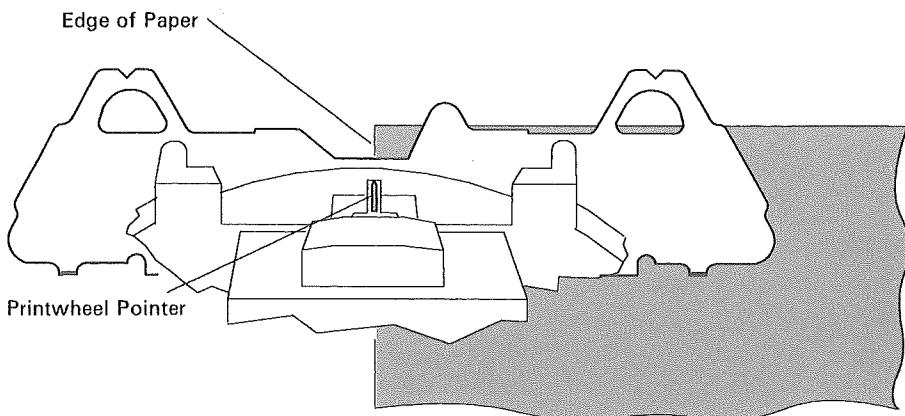

Figure 4-2.
3. Use the **↓, ↑, Paper Up (Micro),** and **Paper Down (Micro)** keys to position the form with the top edge of the paper aligned with the top of the paper guide. See Figure 4-2.